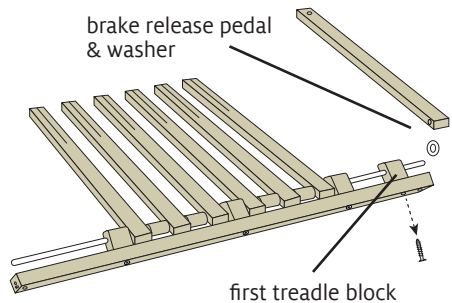

FIGURE 2: REMOVE WASHER, BRAKE RELEASE PEDAL, AND TREADLE BLOCK
**2. All looms:** From the right end of the treadle bar, remove the washer and brake release pedal. Remove the first treadle block on the right: use a #2 Phillips screwdriver to remove the screw, then slide the block off the treadle bar (Figure 2). Set aside these parts for the next step.